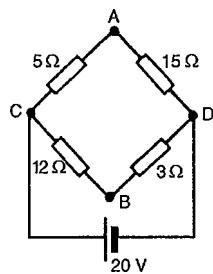

Figure 13.34
- (vii) To find the voltage across AB in Fig. 13.34: Since the 20 V supply is across the 5Ω and 15Ω resistors in series then, by voltage division, the voltage drop across AC,